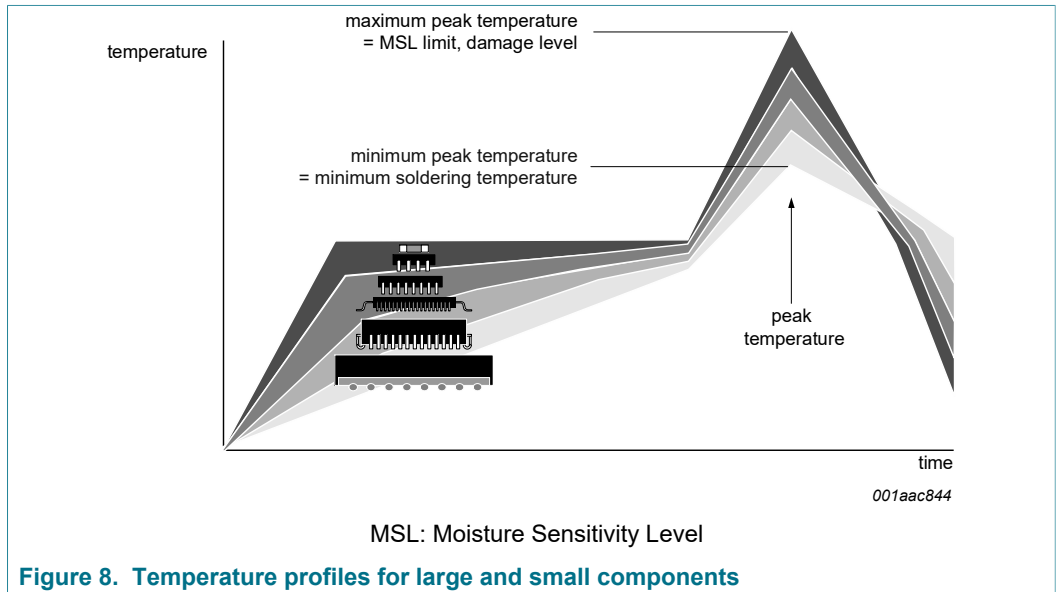

Figure 8. Temperature profiles for large and small components
- Lead-free versus SnPb soldering; note that a lead-free reflow process usually leads to higher minimum peak temperatures (see Figure 8) than a SnPb process, thus reducing the process window
Studies have shown that small packages reach higher temperatures during reflow soldering, see Figure 8.